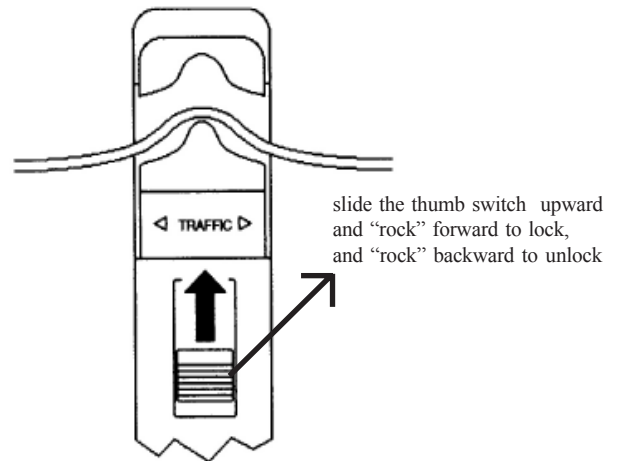

Figure 4
3. Insert the fiber to be tested between the adapter and the top of the clamp (refer to Figure 4). Slide the thumb switch upward and ensure that the fiber is installed properly in the alignment groove.
4. For *hands-free* operation, slide the thumb switch upward and “rock” forward to lock, and the fiber will be held in place (refer to **Figure 4**) “rock” backward to unlock.